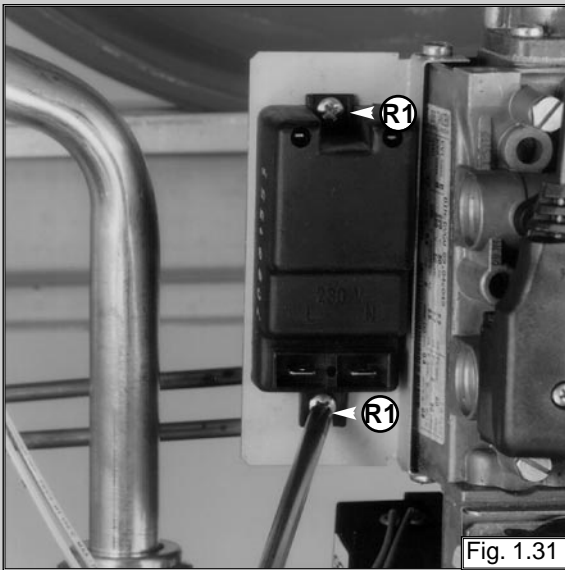

Fig. 1.31
2. Remove the screws "R1" (see fig. 1.31) with a Pozidrive No. 2 star tip screwdriver;
3. Release the top nut "S" using a 30 mm open ended spanner (see fig. 1.31);